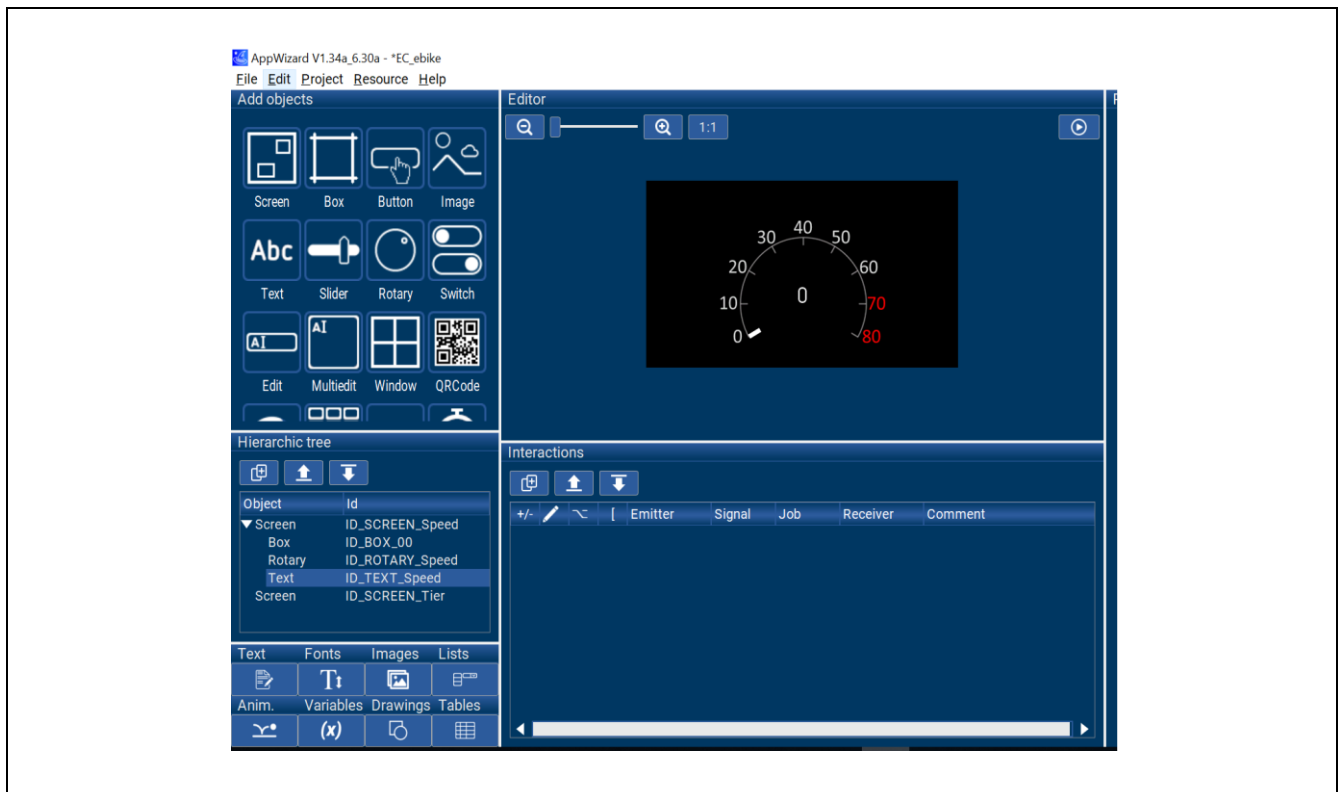

Figure 1-20 Using Text Object to Display Speed Number
- 3) Use the Text object to display the speed value. Once the configuration is completed, it should appear as shown in Figure 1-20.